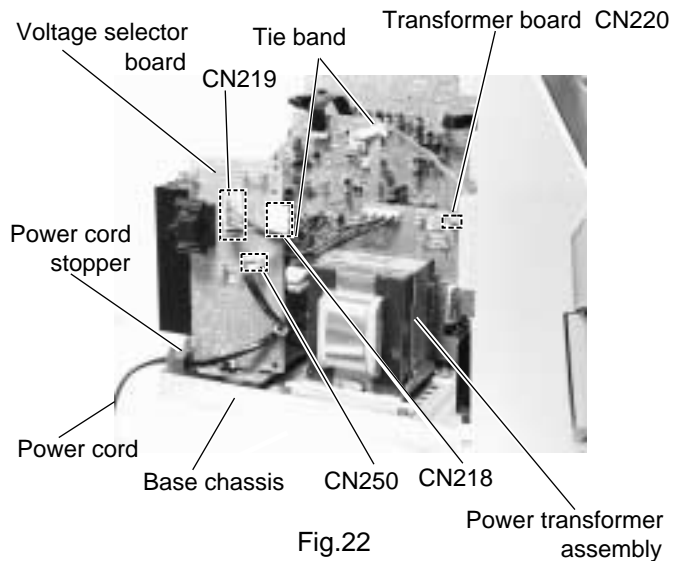

Fig.22
(Refer to Fig.22)
■ Removing the power transformer assembly (See Fig.22 and 23)